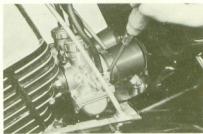

Fig. 3-18-5
- 4) Turn each idle mixture screw in until lightly seated, then back it out 1-3/4 turns. This is a factory setting and requires no further adjustment (Fig. 3-18-5).